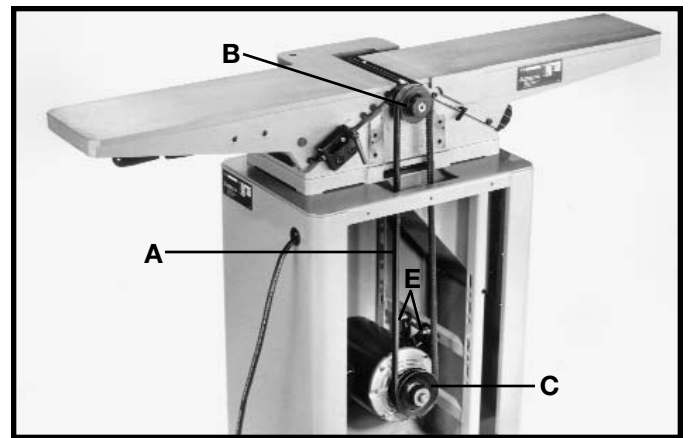
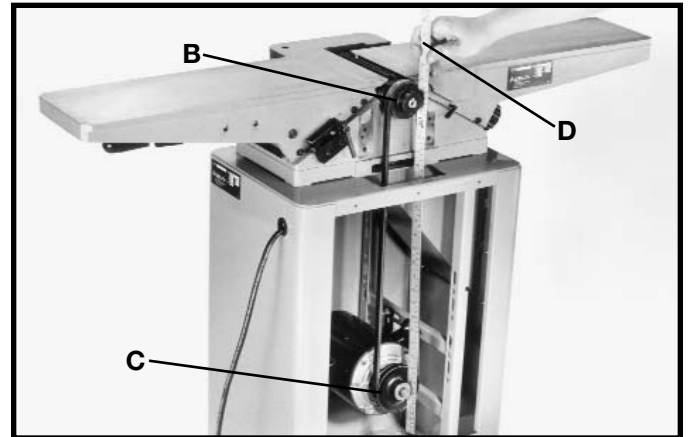

Fig. 11
Fig. 12
1. Place belt (A) Fig. 11, in groove of cutterhead pulley (B) and motor pulley (C).
2. Make certain the motor pulley (C) Figs. 11 and 12, is properly aligned with cutterhead pulley (B) by placing a straight edge (D) Fig. 12, onto the face of each pulley as shown.
3. If an adjustment is needed, the motor pulley can be moved in or out on the motor shaft, or the motor can be shifted by loosening motor mounting screws, two of which are shown at (E) Fig. 11. After adjustments are made, tighten motor mounting hardware and motor pulley set screw.